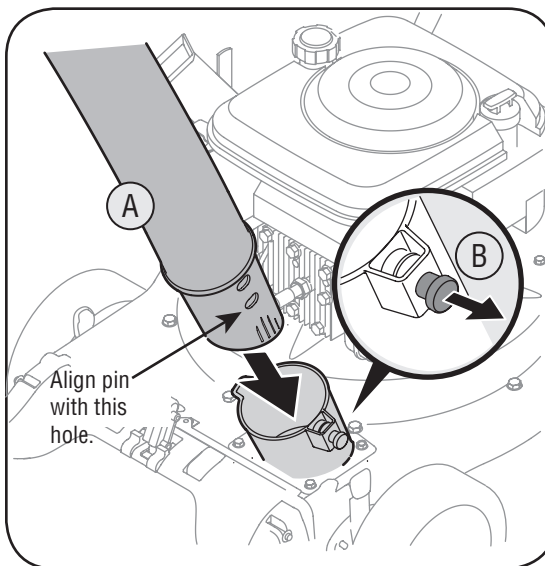

Figure 3-4
5. a. Slide hose adapter of hose assembly into the base adapter located on the left front of the Chipper shredder Vacuum. See Figure 3-4.